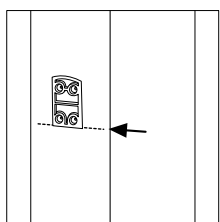

Figure 7
8. Take dovetail piece (curve part to top), and align directly to pencil mark as made in step 6 (Figure 7).